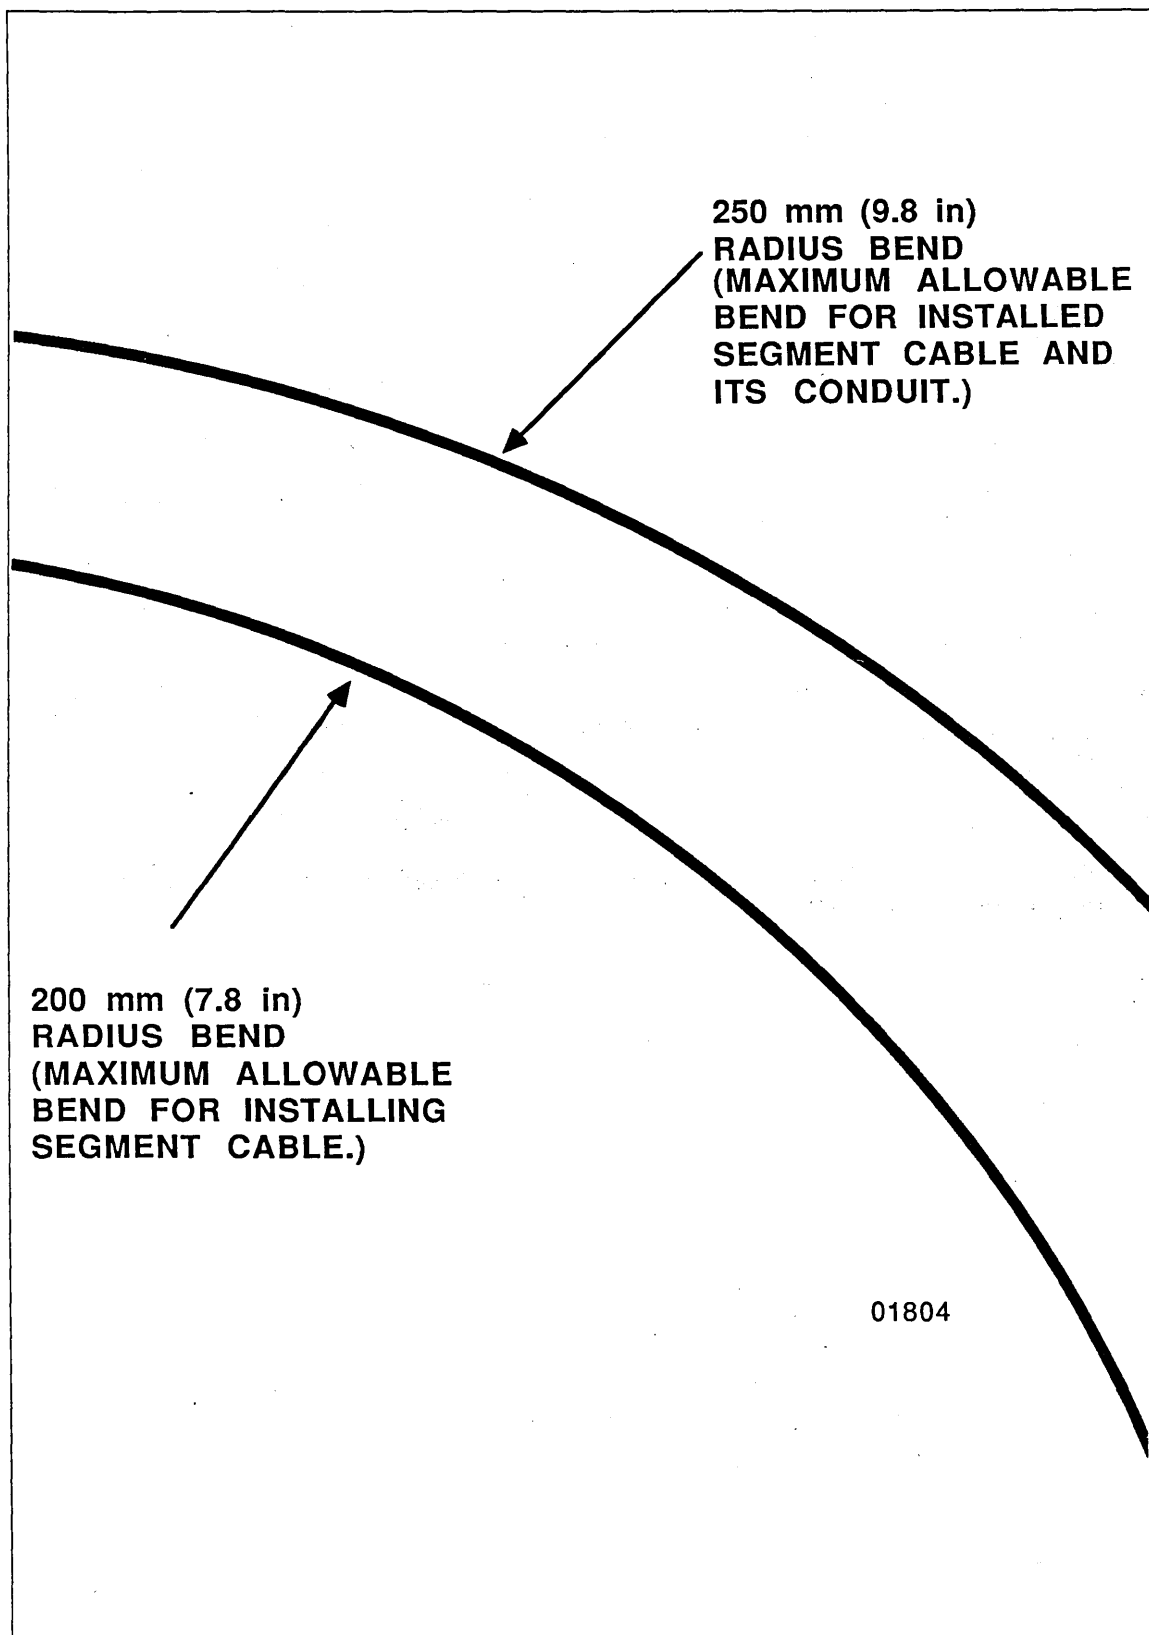

Figure 2-2. Maximum Bend Templates for Segment Cable and Conduit
- The maximum allowable bend during installation of the segment cable transcribes an arc or circle with a 200-mm (7.87-in) radius. (See figure 2-2 for a full-size template.)
- The maximum allowable bend for installed segment cable transcribes an arc or circle with a 250-mm (9.84-in) radius. (See figure 2-2 for a full-size template.)
- The maximum allowable bend for conduit used to house segment cable transcribes an arc or circle with a 250-mm (9.84-in) radius. (See figure 2-2 for a full-size template.)